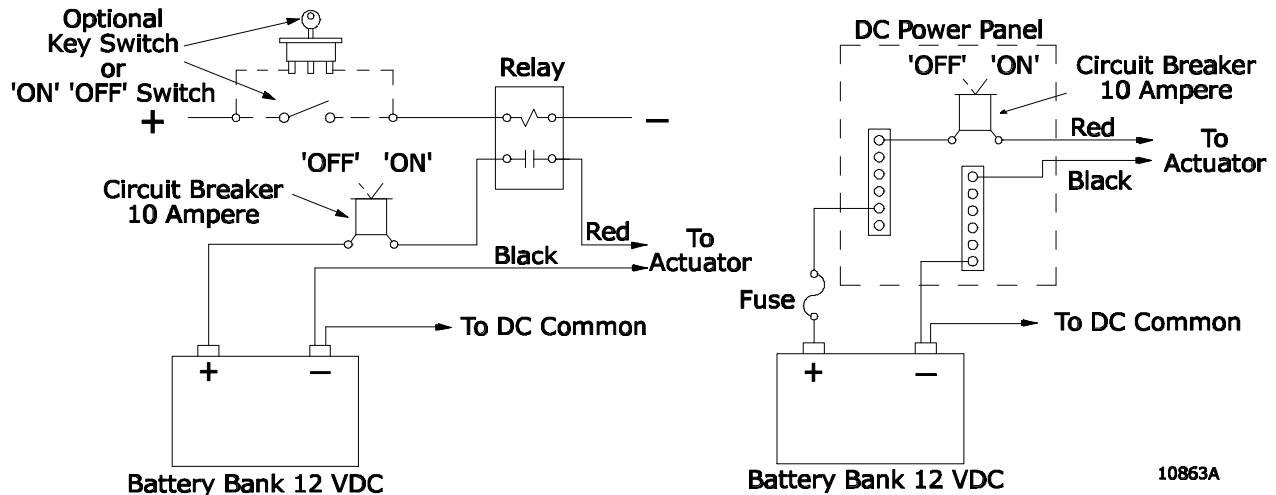

Figure 1
2.2.4 Control System Power 'On' - 'Off' (See Figure 1)
There are a few good methods to turn the control system 'ON' - 'OFF'. The key switch or a separate switch may be used to operate a relay. The circuit breaker may be used as a switch. Examples are show in Figure 1. Use a relay with coil voltage to match your DC battery voltage and that is external ignition protected if mounted in a gasoline engine room. Power is drawn from the battery through a circuit breaker, 10-ampere, trip free, external ignition protected, and manual reset. Use an E-T-A circuit breaker, Pc.No. 41-2-S14-
When connecting the DC power cable to the Actuator be sure the power is 'OFF'. The (+) positive lead (red with purple stripe) connects the + DC power source to the Actuator. (See Figure 1) The (-) negative lead is black. The ferrite bead is fed onto the power cable before entering the Actuator. Tie wrap the power cable to the frame and tighten the cable grip.